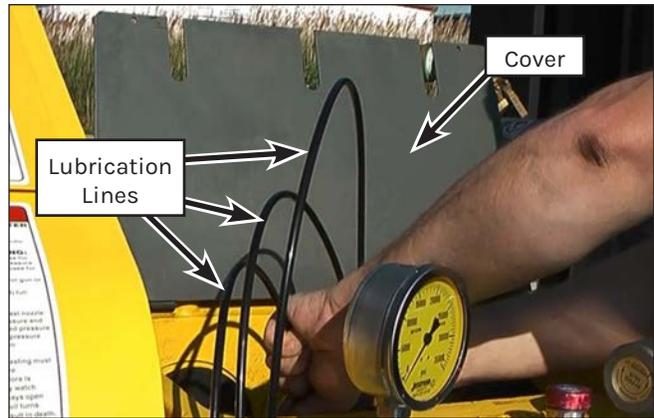

Figure 100: Disconnecting the Lubrication Lines.
4. Open the rod box cover (Figure 100) and disconnect the lubrication lines from the stuffing box fittings.